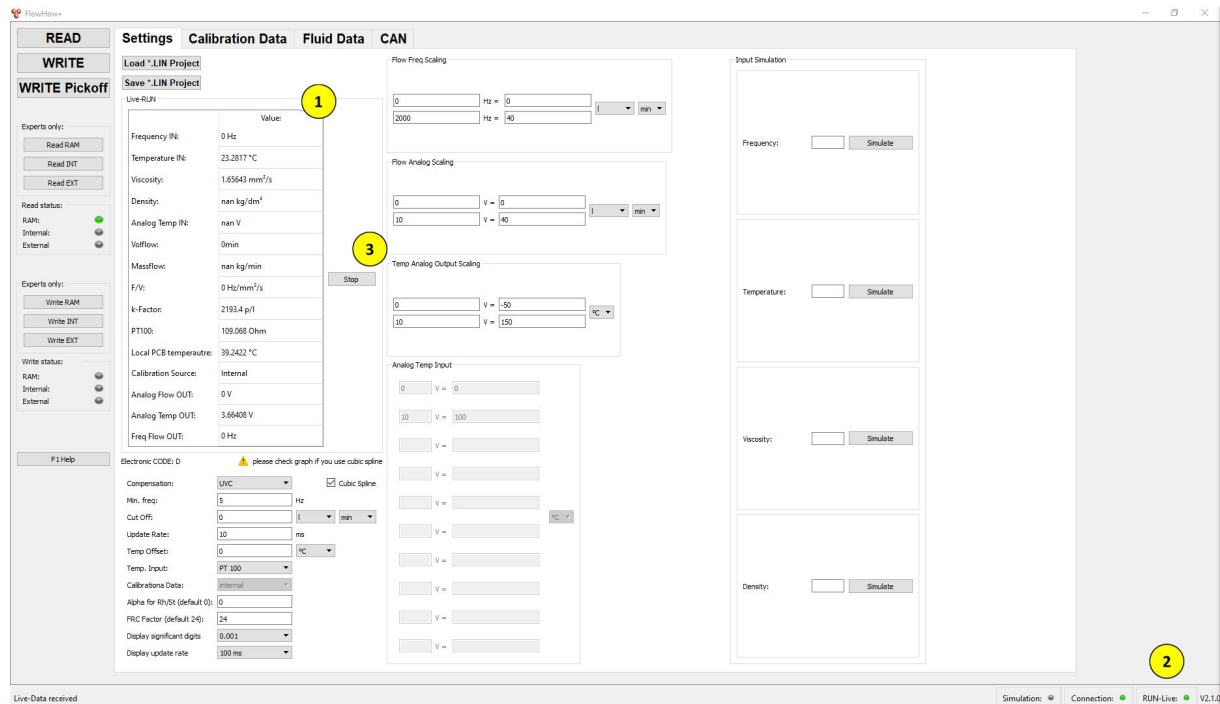

Fig. 18 Live-RUN active
The real-time data is then displayed in the "Live-RUN" **(1)** area and the status LED "RUN-Live" **(2)** lights up green [Fig. 18].
- Press "Stop" **(3)** button [Fig. 18].